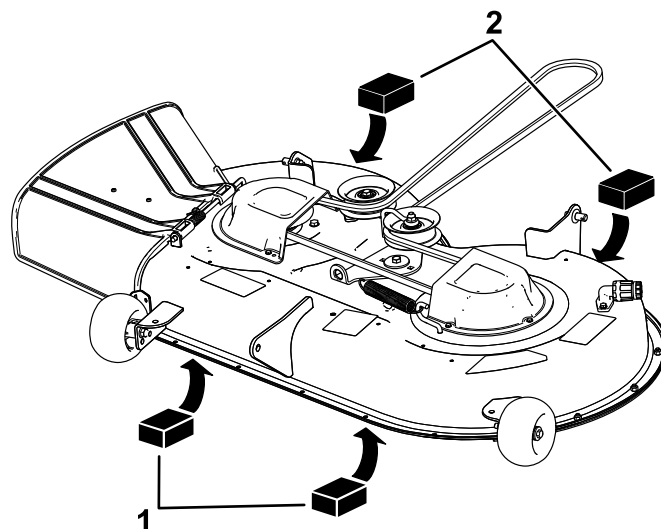

Figure 68
4. Place 2 blocks, each having a thickness of 6.6 cm (2-5/8 inches), under each side of the front edge of the deck but not under the anti-scalp roller brackets (Figure 68).
5. Place 2 blocks, each having a thickness of 7.3 cm (2-7/8 inches), under the rear edge of the cutting deck skirt, 1 on each side of the cutting deck (Figure 68).